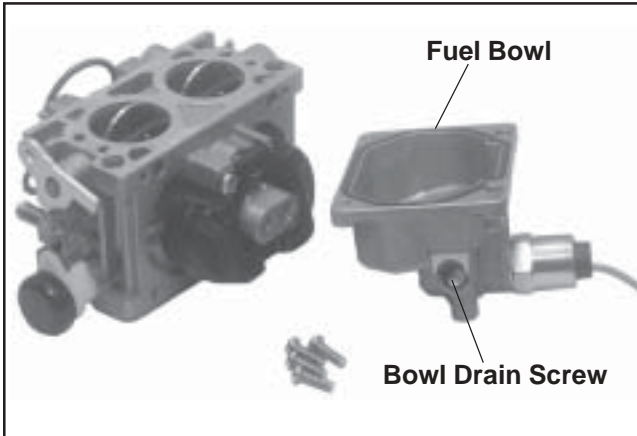

Figure 5-43. Fuel Bowl Removed From Carburetor.
2. Clean the exterior surfaces of dirt or foreign material before disassembling the carburetor. Remove the four mounting screws and carefully separate the fuel bowl from the carburetor. Do not damage the inner or bowl O-Ring. Transfer any remaining fuel into an approved container. Save all parts. Fuel can also be drained prior to bowl removal by loosening/removal of the bowl drain screw. See Figure 5-43.